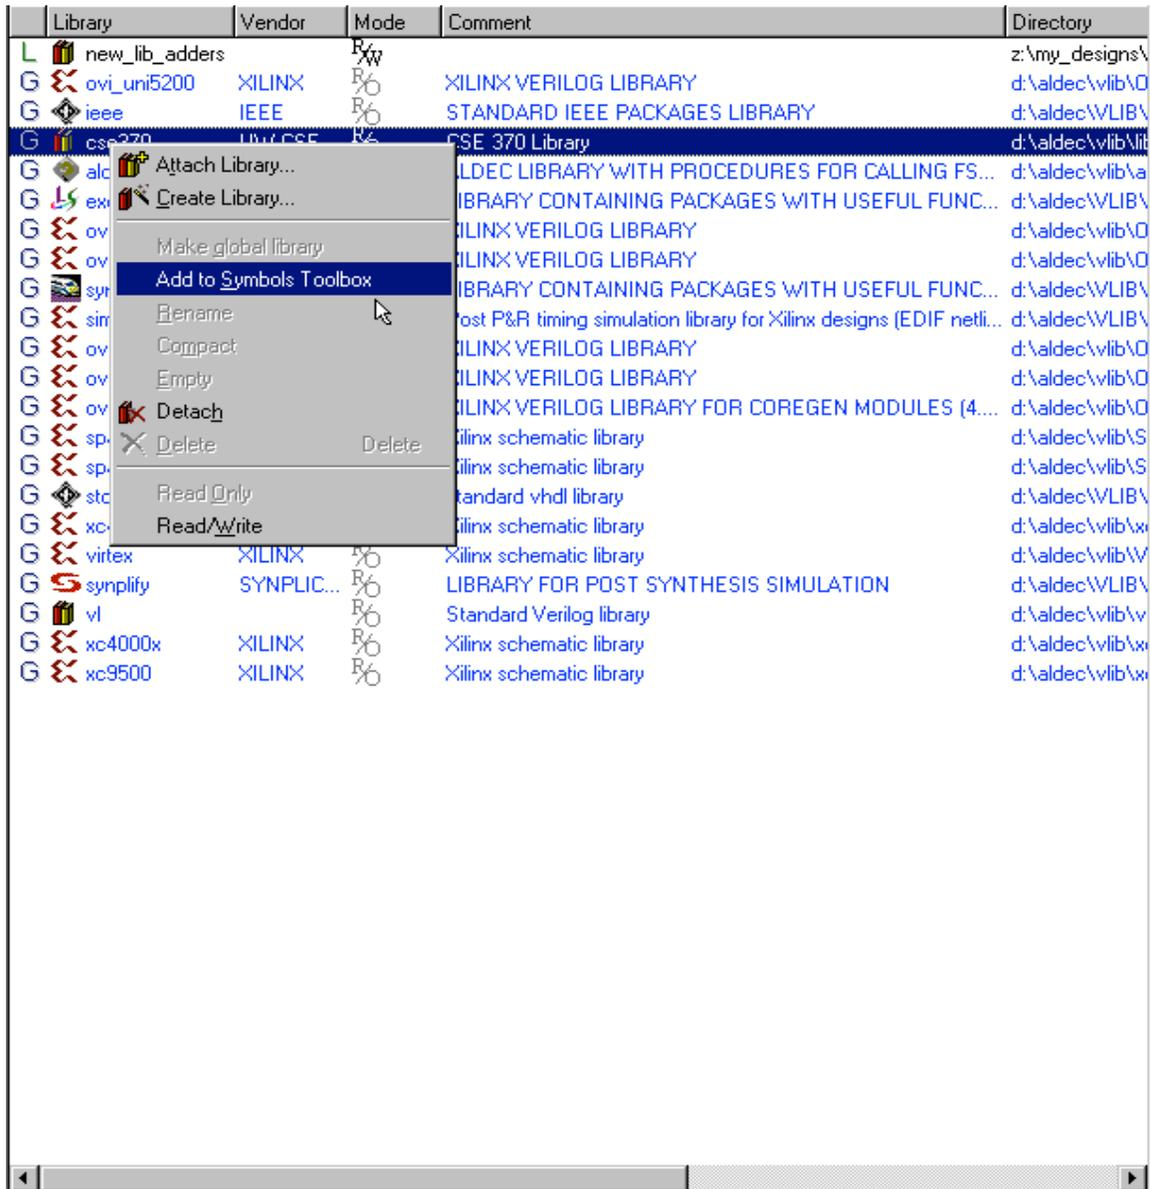

Figure 15
2. Locate the cse370 library in the left frame of the main window, and right click it (Figure 15).